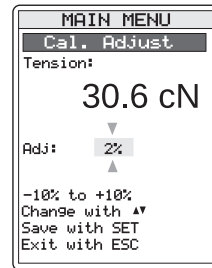

fig. 3.5.5b
- Select the „Cal. Adjustment“ menu item from the main menu (Fig. 3.5.5b)